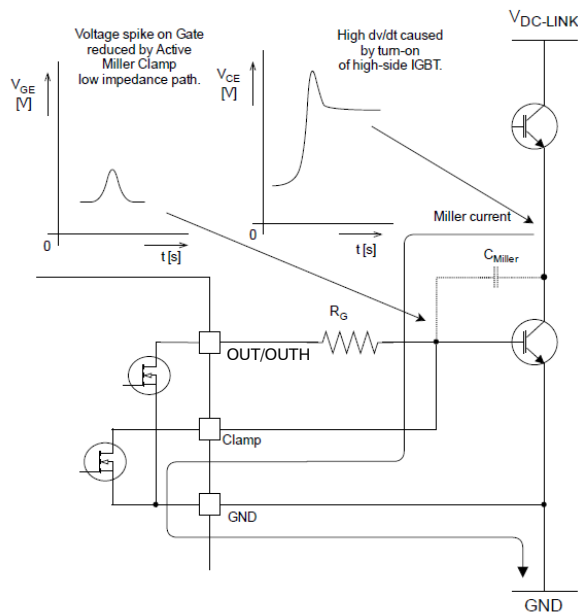

Figure 28. Current Path with Miller Clamp Protection
- In Unipolar power supply the driver is typically supplied with a positive voltage of 15 V at  $V_{DD2}$ . Unwanted turn-on caused by the internal IGBT/MOSFET Miller capacitance could be prevented by Active Miller Clamp function (variant A). CLAMP output should be directly connected to IGBT/MOSFET gate (Figure 28)